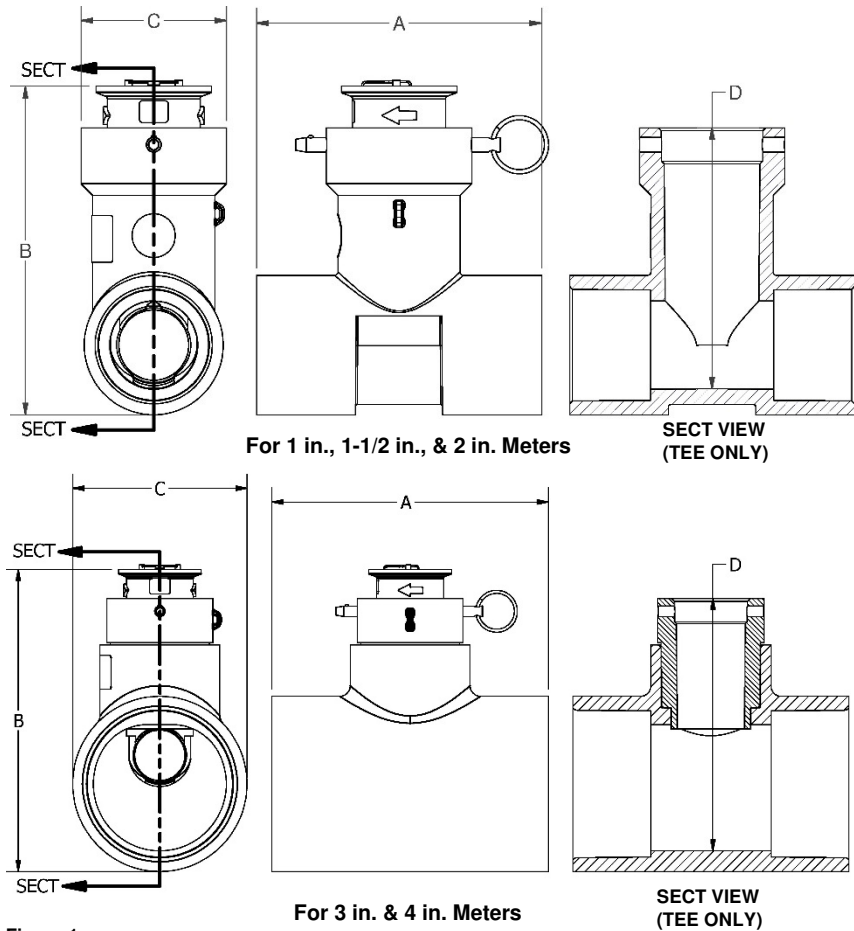
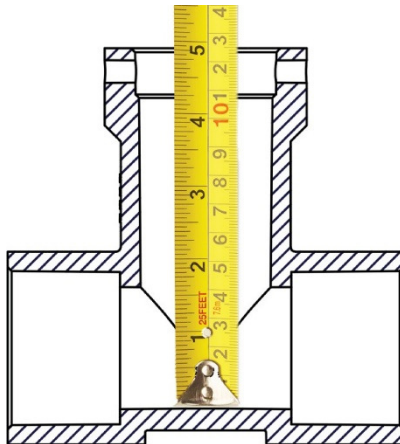

Figure 1
Figure 11
1. Dipstick Method (For 2 in., 3 in. and 4 in. meters only): The interior depth of the meter body indicates its size. To check, remove the old insert from the meter body and insert the end of a stiff tape measure down into the insert bore until it touches the bottom of the meter body bore. Read the depth shown on the tape measure at the top of the Tee housing (see Figure 11) and compare with dimension "D" in the specifications section (see Figure 1).